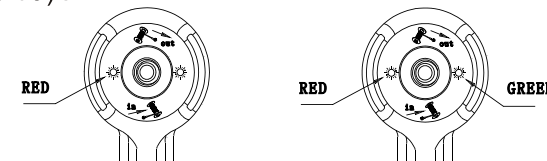

figure 10
- ◇ When power on, the LED on the controller shows RED. When press "IN" or "OUT", LED light shows GREEN (See figure 10) .